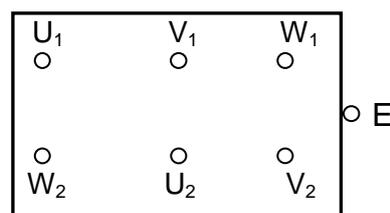

FIGURE 4.1: TERMINALS OF A THREE-PHASE INDUCTION MOTOR
- 4.5 FIGURE 4.1 represents the terminals of a three-phase induction motor. Answer the questions that follow.
- 4.5.1 Redraw the terminal box in FIGURE 4.1. Then draw in the motor coils and show them connected in star. (5)